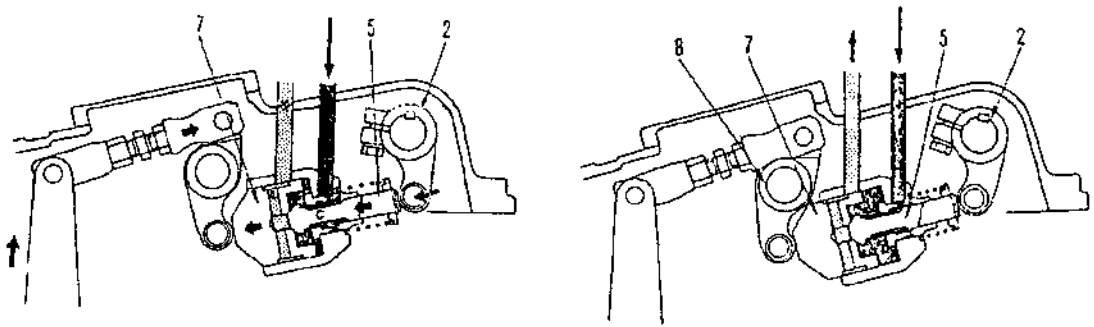

Fig. 2-79
When brake pedal is depressed and brake applied: While the brake pedal is depressed, lever(11) pushes spool(7) in the direction of the arrow(←) and the passage between port C and D is open. So the oil from the pump goes from port B through orifice "a" to port C and D. The oil pushes piston(6) to move in the direction of the arrow(←) and open the passage between port D and port A with increasing oil pressure. The oil then drains from port A to the steering case. The brake pedal is depressed further to compensate the oil loss when the oil passes the opened passage. Finally, the spool(7) makes port A smaller. The above operation runs continuously in a short time, then the piston end pushes the lever(5) down, the brake band contracts smoothly and the braking is applied. When the brake pedal reaches the end of its travel, the passage between port D and A will be shut off. The main regulator valve functions and the oil flows into the torque converter circuit. At this time, the normal oil pressure valve in the circuit is 2.16MPa, as shown in Fig. 2-79.